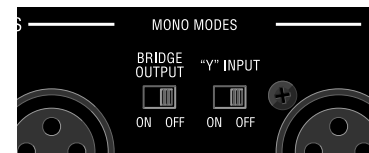

Fig. 2.2
3. **Set the mono mode switches.** Both the Bridge Output and "Y" input switches should be in the OFF position when you're running in Stereo Mode (see Figure 2.2). Stereo Mode allows independent inputs on the right and left channels to feed separate speakers at the output. It's the configuration typically chosen for everyday audio applications.